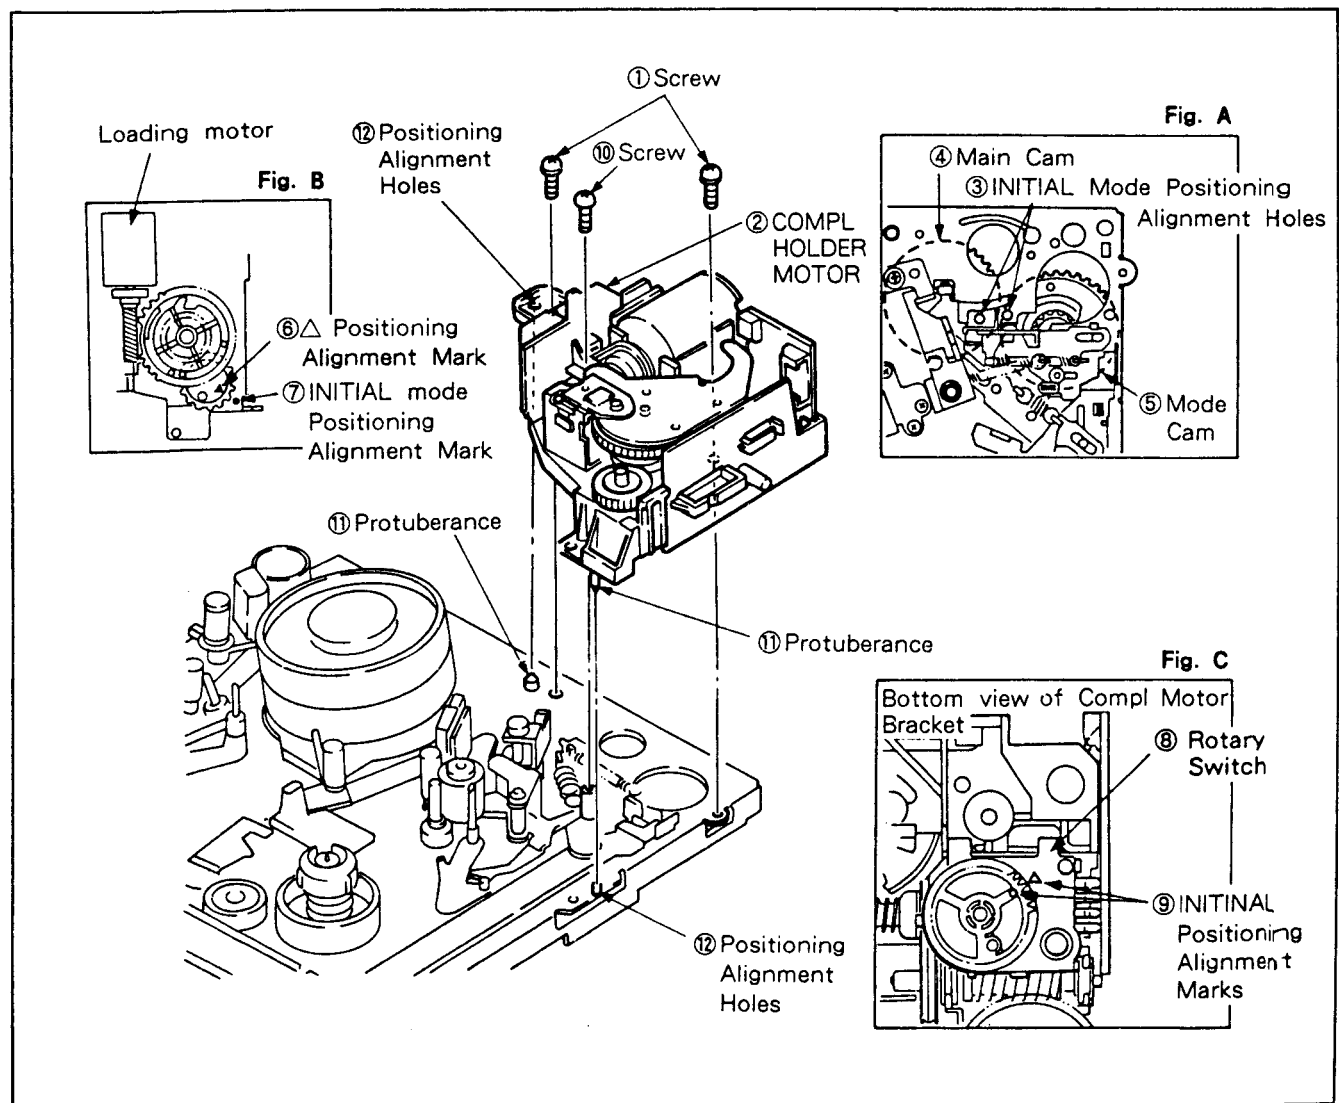

Fig. 4-3-1. Compl Holder Motor
- 3) Remove the two screws ① and the other one ⑩, then remove the COMPL HOLDER MOTOR ② (see Fig. 4-3-1.).